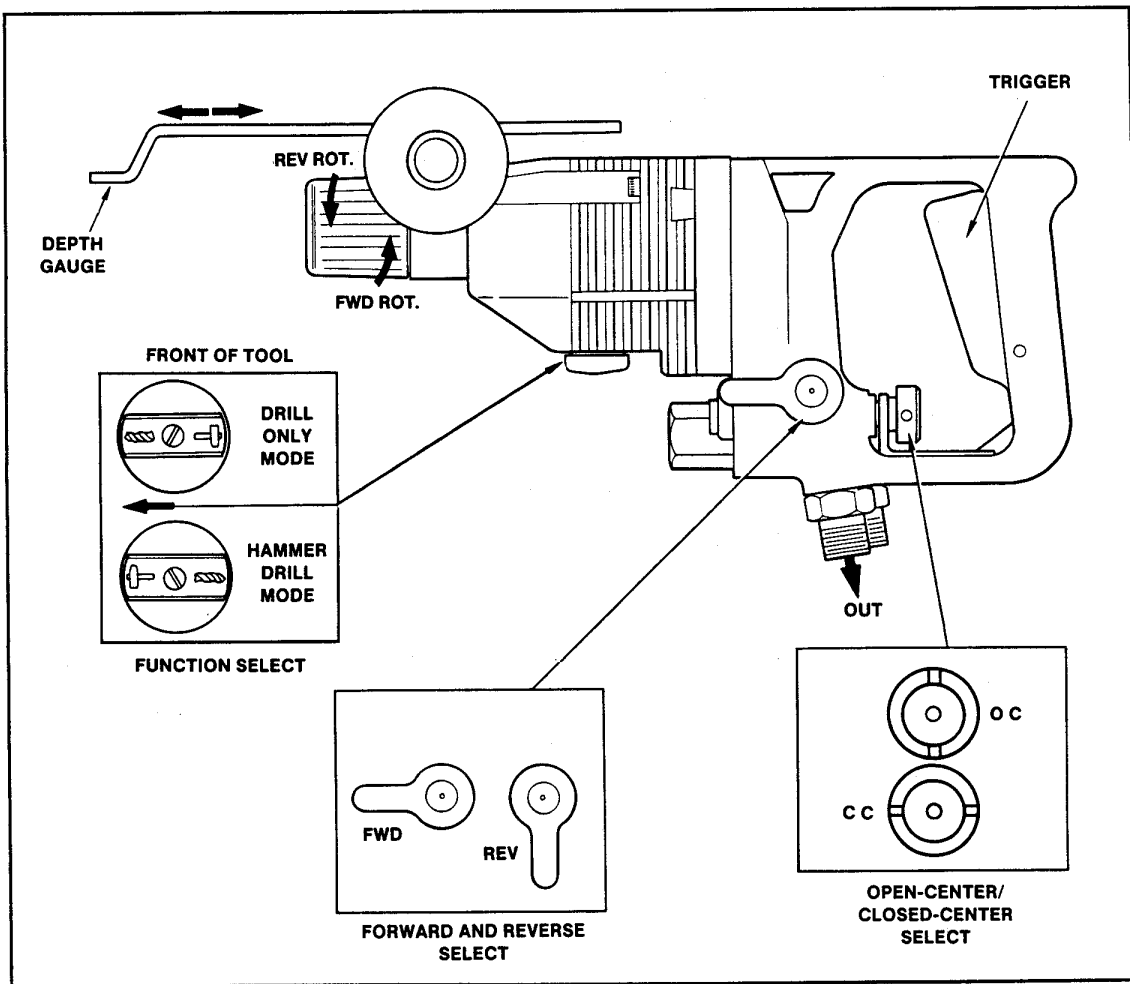

Figure 1. Operator Controls
- The hammer drill cannot be operated with the hydraulic flow reversed. Supply (IN) and return (OUT) hoses must be connected as marked on the sides of the tool ports. Forward and reverse operation of the tool is determined by the position of the FORWARD/REVERSE Selector on the side of the tool (See Figure 1).
Forward/Reverse rotation is selected by the lever on the left-hand side of the tool, as shown in Figure 1.
Drilling depth can be set using the depth gauge shown in Figure 1. To set the gauge, loosen the side handle, slide the gauge to the desired position, and tighten the locking knob. Be sure the side handle is tight before operating the tool.